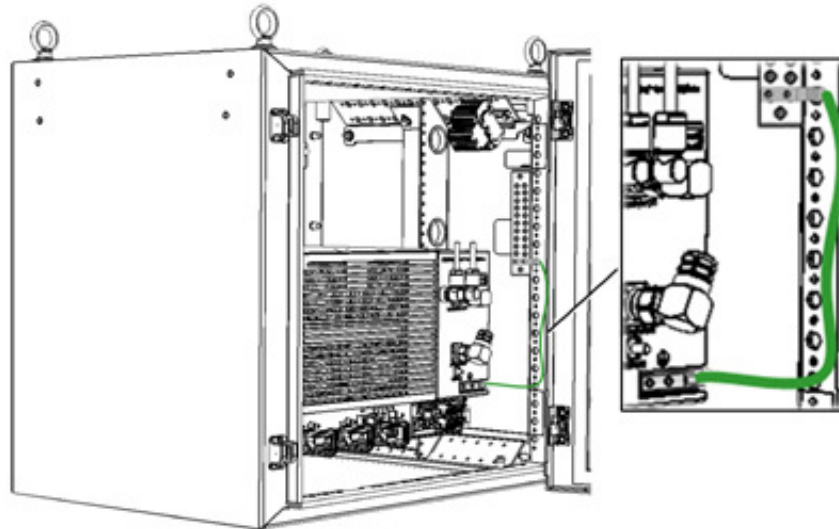

Figure 6-17. Grounding MRU to Cabinet
- Using one of the grounding cables provided with the cabinet, ground the MRU chassis via the two-hole, standard barrel grounding lug located on the front panel to one of the cabinet grounding bolts. Refer to Figure 6-17.